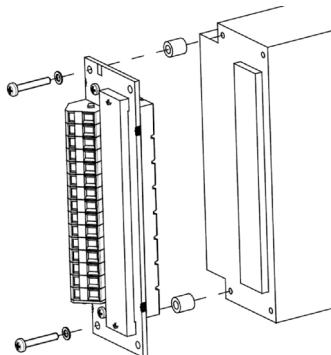

Fig. 23
- Cage clamp adapter HZZ00144-G; see fig. 23